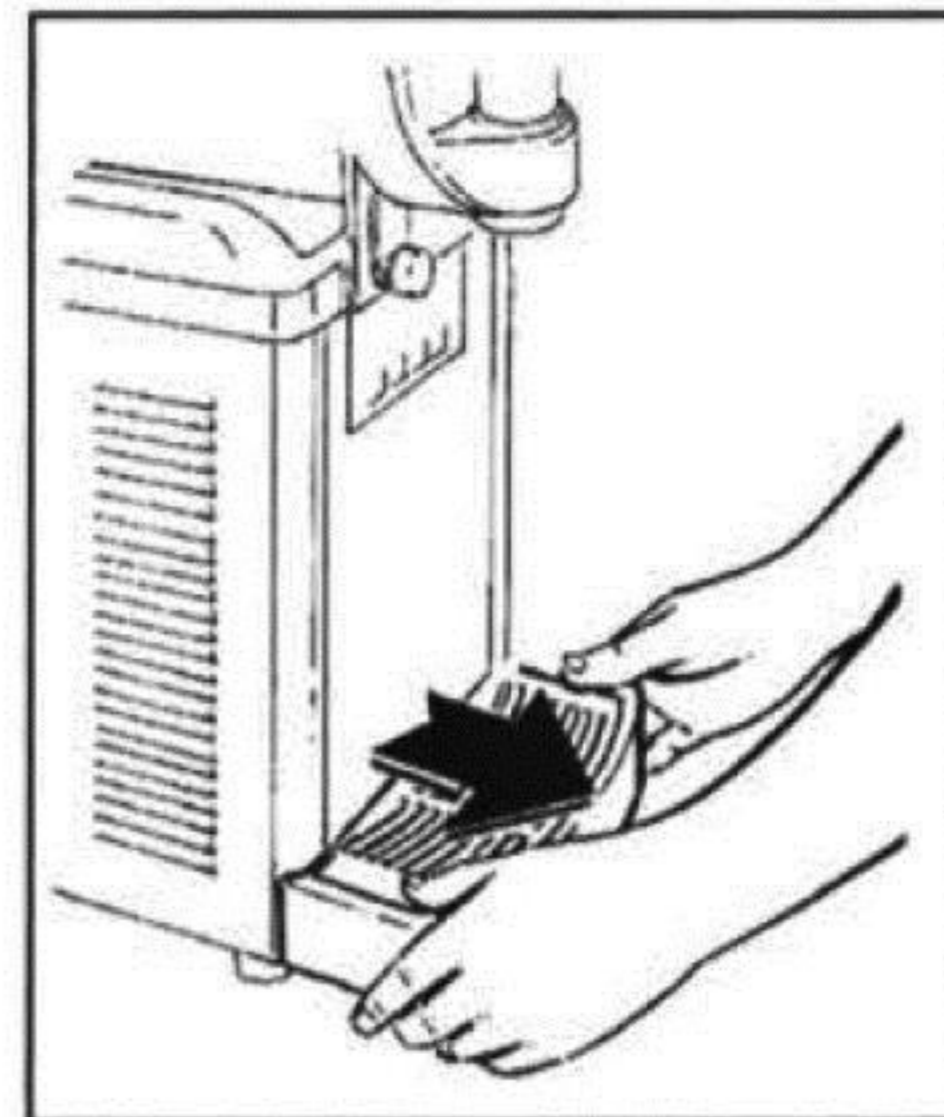

fig.32
- Remove the drip tray by pulling it outward (fig.32).